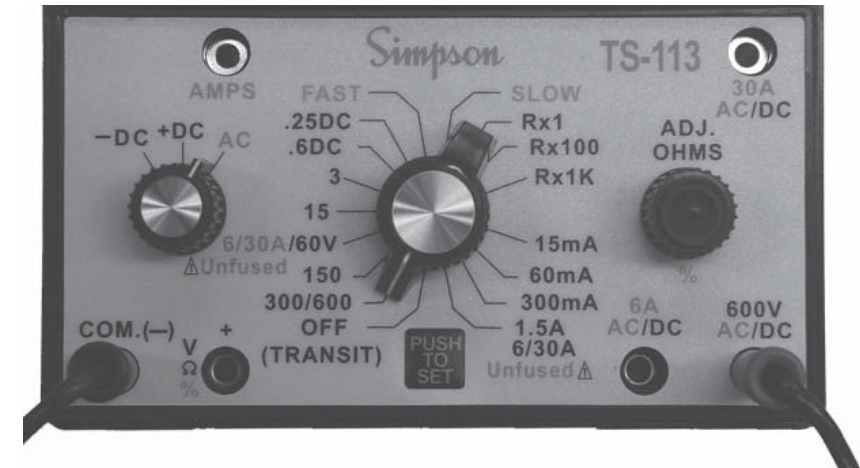

Figure 5a. Measuring High AC Volts
- For voltages greater than 300V,** (Fig. 5a) connect the black marked lead into the "COM (-)" jack and the red marked lead into the "600V AC/DC" jack.